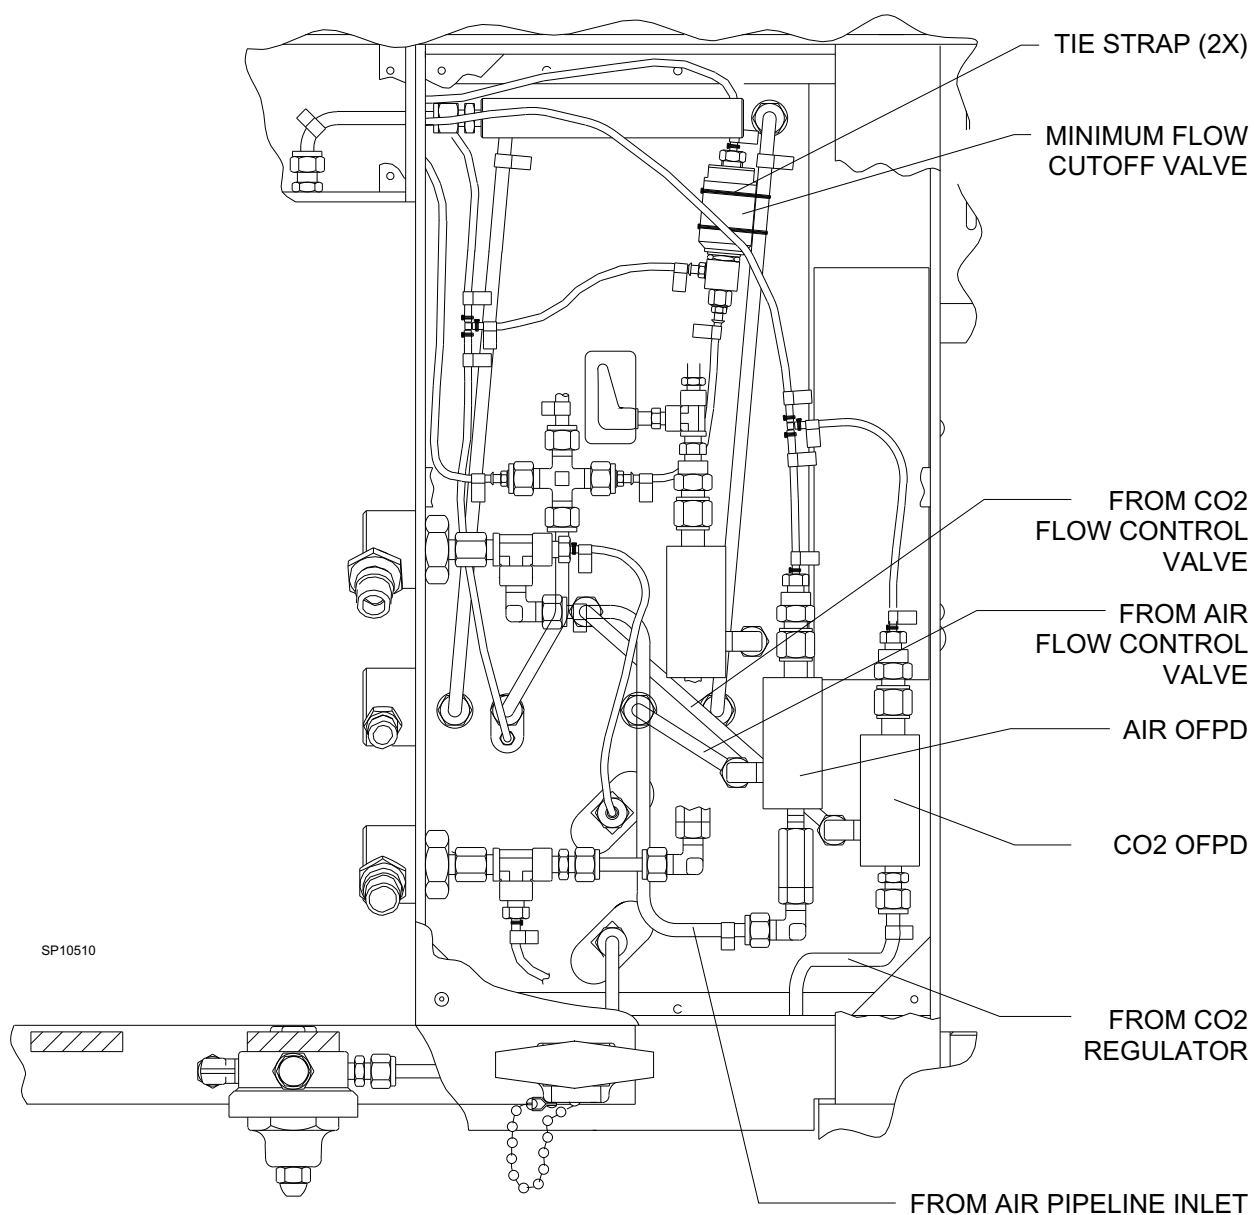

**Figure 9: CO2 CYLINDER REGULATOR L.P. CONNECTIONS**
75. Connect the short end of a ¼ in. dia. "L" tube (P/N 4110837-015) to the CO2 cylinder pressure regulator as shown in Figure 9. Install a CO2 label (P/N 4109873 x2) on each end of this tube.
77. Connect the short end of a ¼ in.dia. pre-bent tube (P/N 4110279) to the remaining port on the tee fitting as shown in Figure 9. Install a CO2 label (P/N 4109873 x2) on each end of this tube.